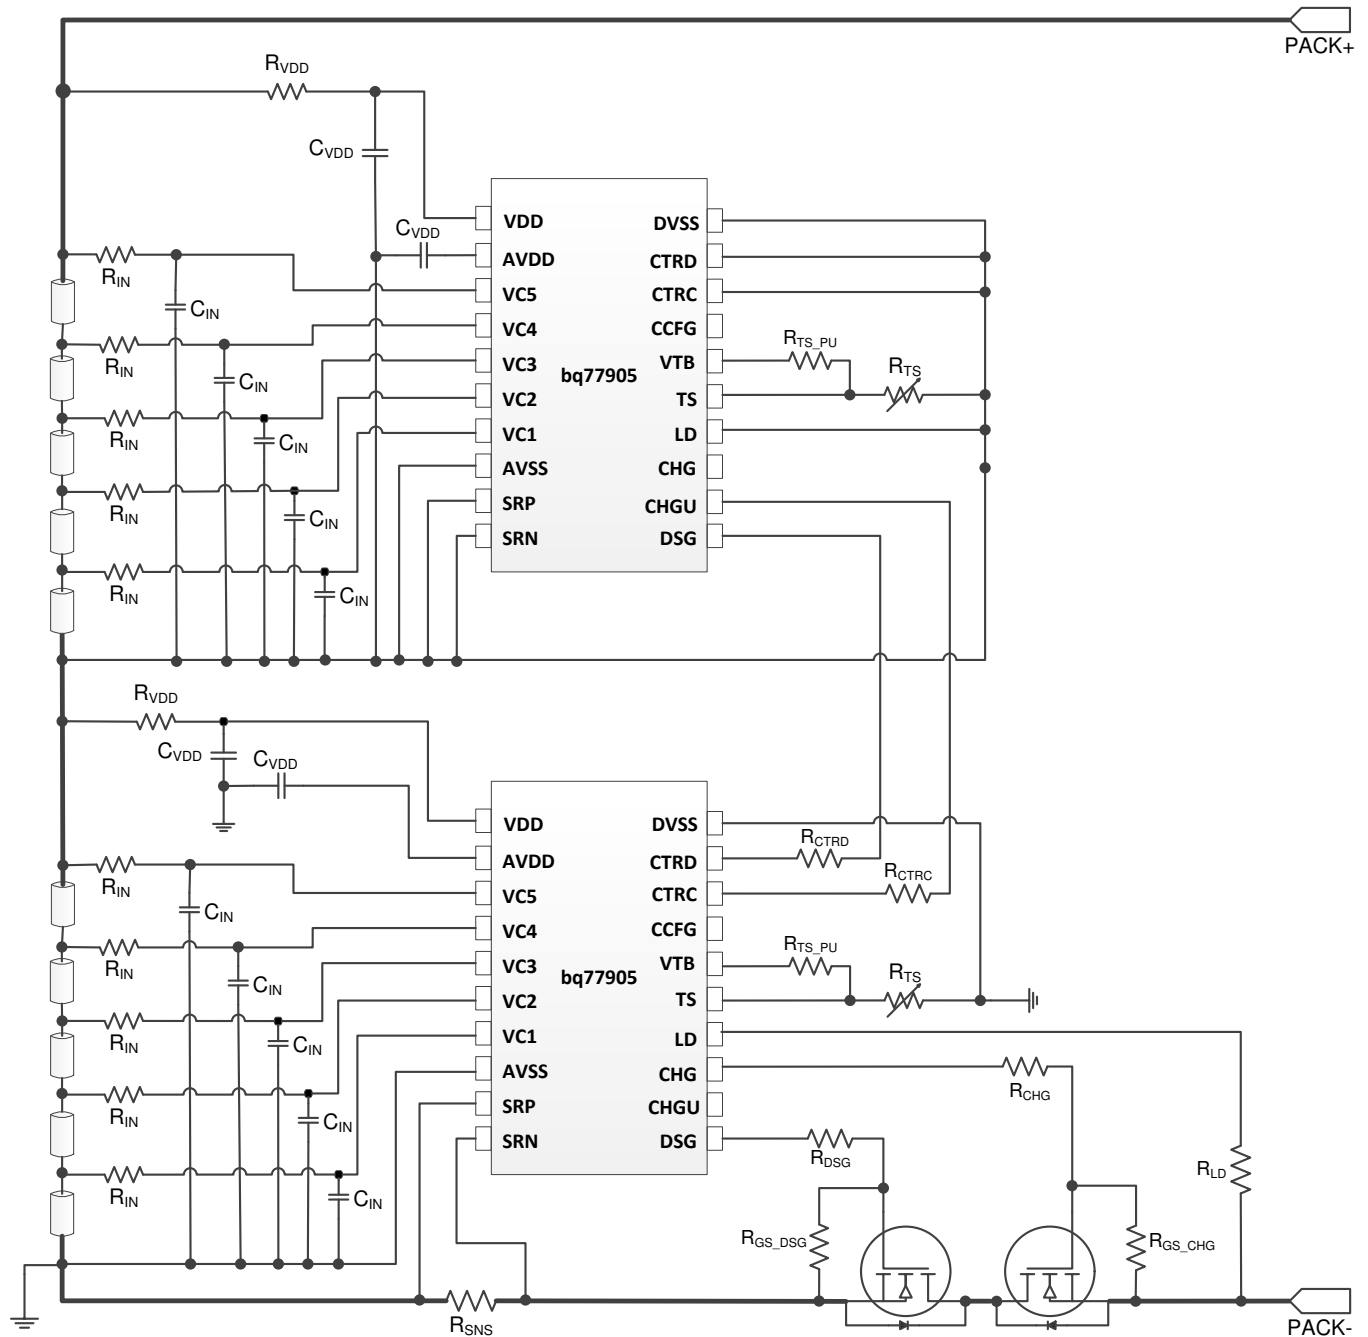
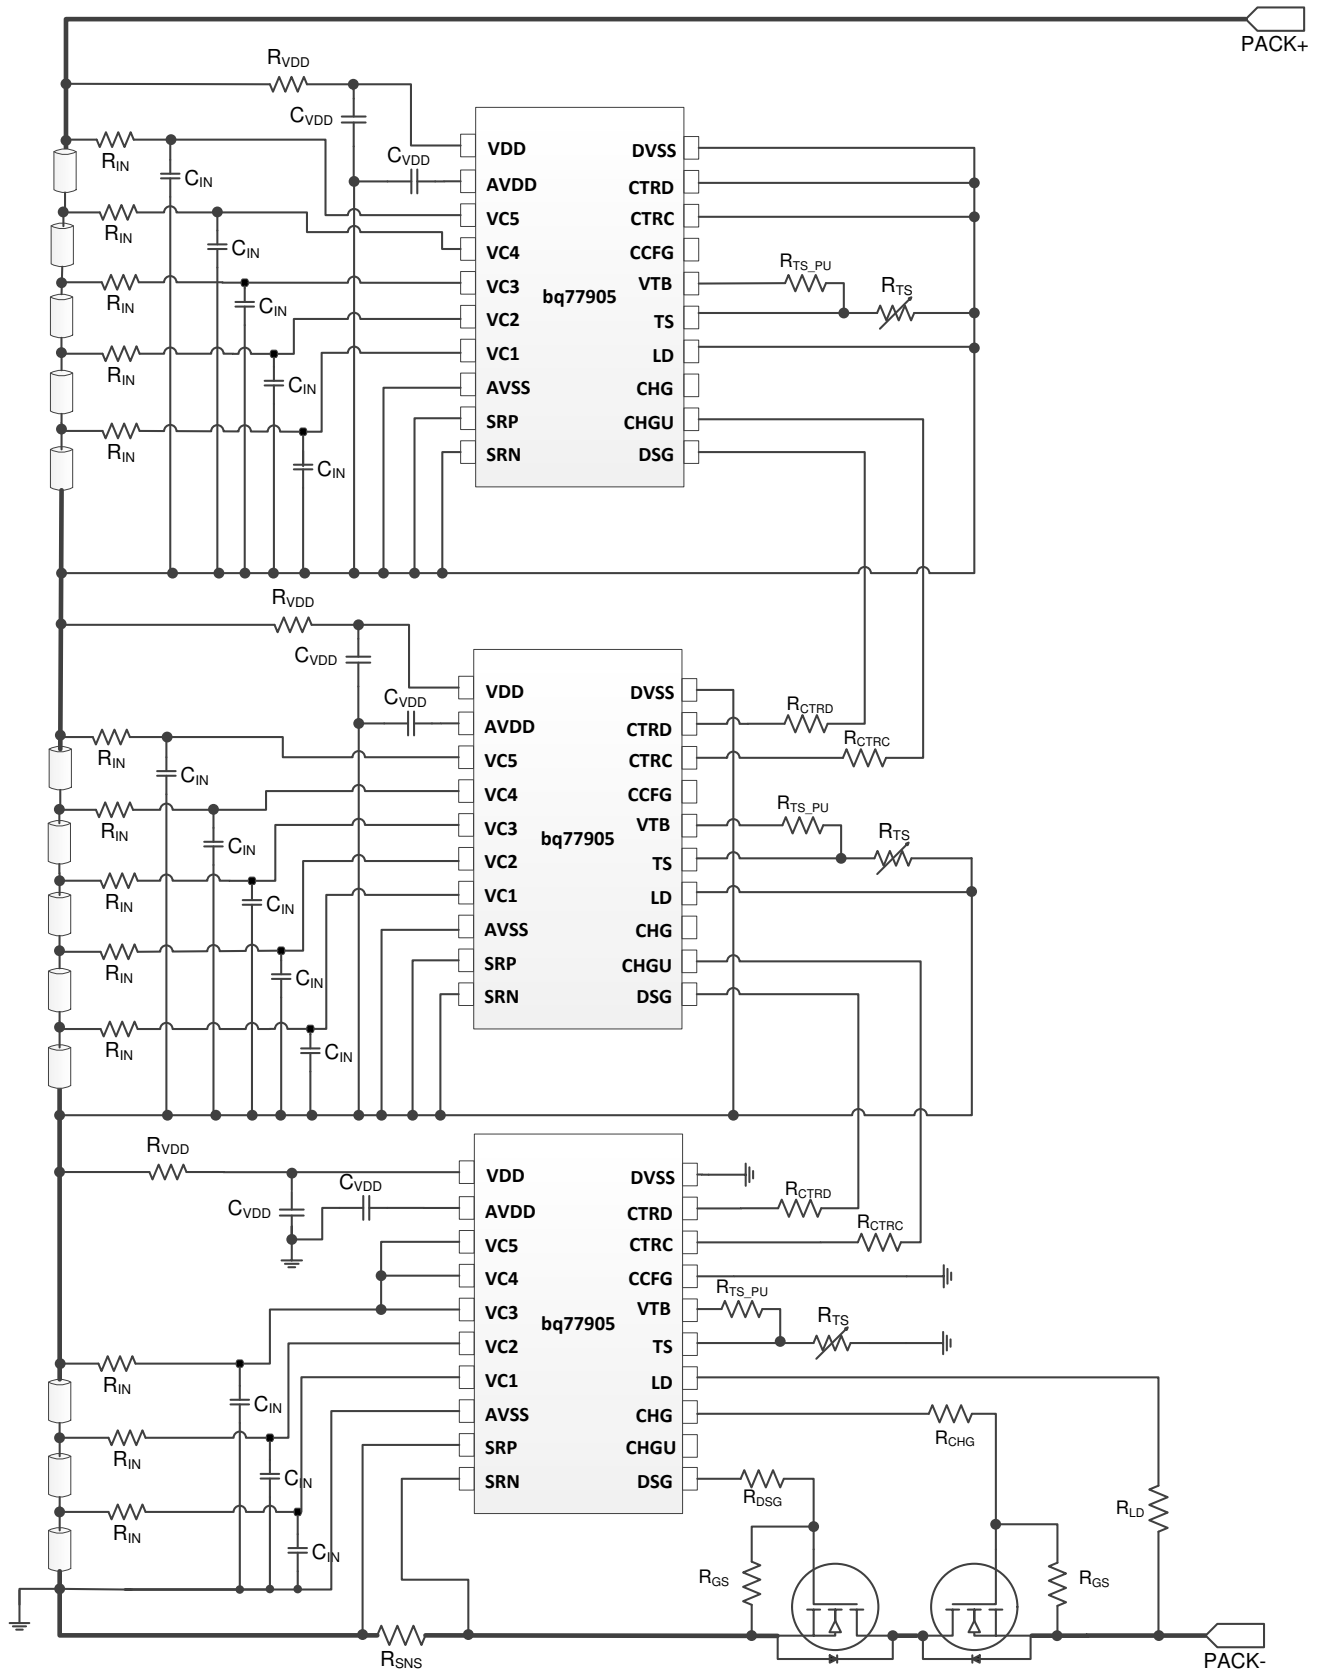
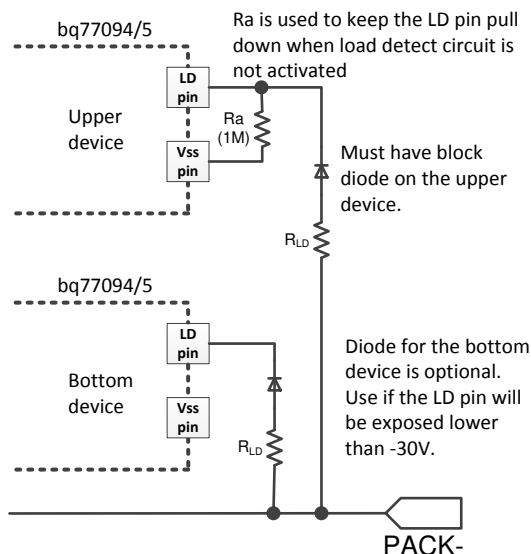

Figure 16. 10S Pack Using Two BQ77905 Devices
Figure 17. 13S Pack Using Three BQ77905 Devices
Figure 24. Simplified Circuit: LD Connection on Upper Device When Using for UV Fault Recovery
- If load removal is not used for UV recovery, connect the upper device LD pin to its AVSS pin, as shown in Figure 16 and Figure 17. Otherwise, refer to Figure 24 for proper LD connection.
To ensure load removal is detected properly during a UV fault, TI recommends to use 3.3 M Ω for R_{GS_CHG} (instead of a typical of 1 M Ω when load removal is NOT required for UV recovery). R_{CHG} can stay in 1 M Ω as recommended when using CHG FET protection components. The CHG FET rise time impact is minimized as described in the Protecting CHG FET section. On a stacked configuration, connect the LD pin, as shown in Figure 24 if load removal is used for a UV fault recovery. If load detection is not required for a UV fault recovery, a larger value of R_{GS_CHG} can be used (that is, 10 M Ω) and the LD pin on the upper devices can be left floating.